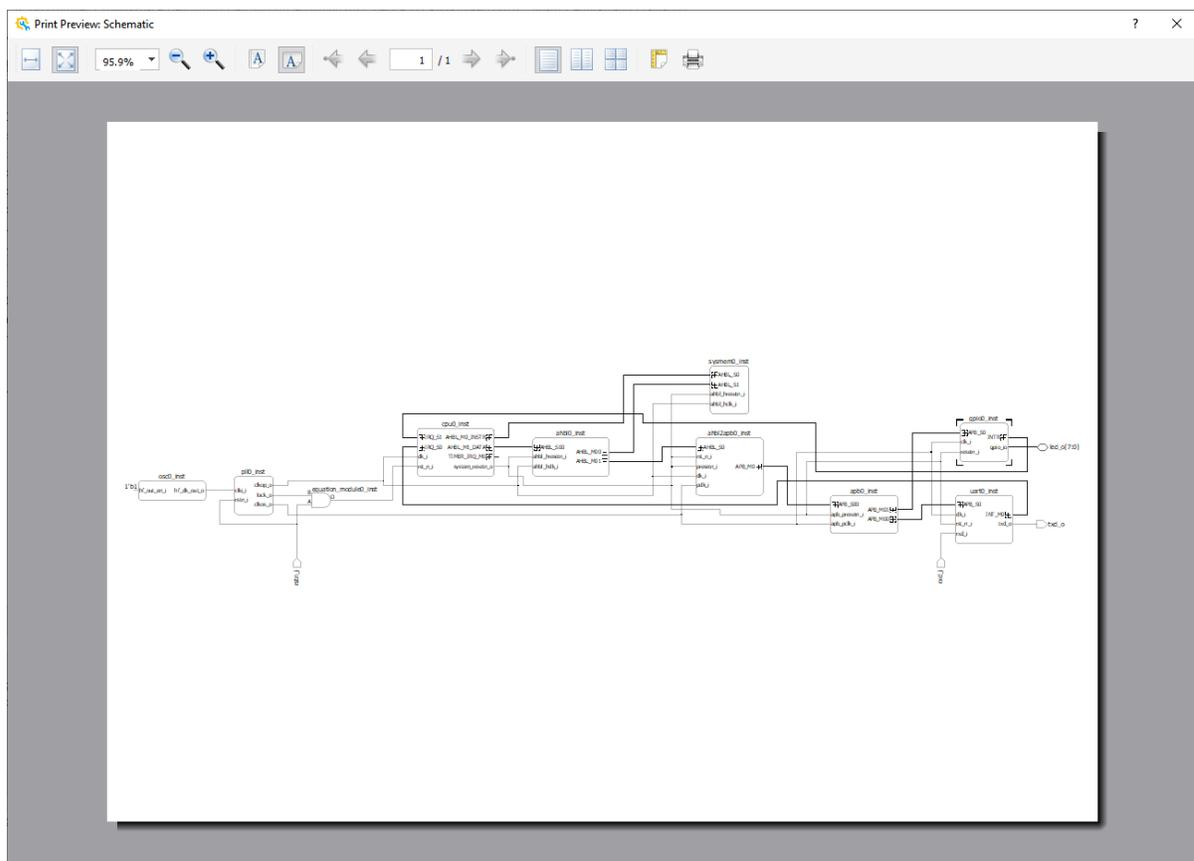

Figure 2.43. Print Preview
1. Choose **File > Print Preview**. The Print Preview window (Figure 2.43) opens.